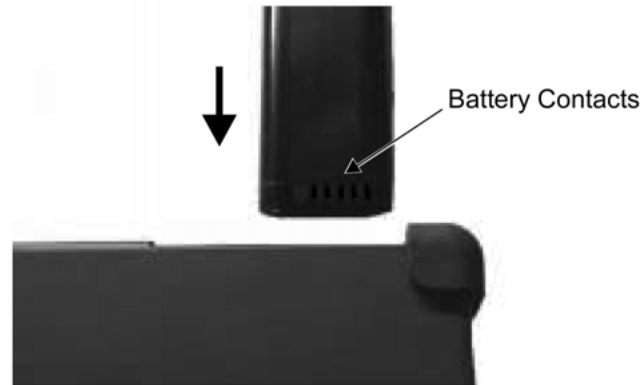

Figure 3-2. Battery Pack Replacement
5. Replacement of the battery is the reverse of removal. Note the orientation of the battery contacts, and be sure to insert the new battery with the contacts facing the rear of the instrument (Figure 3-2).